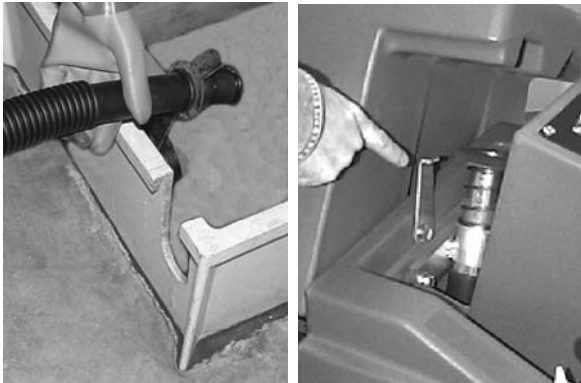

FIG. 14
1. Remove drain hose from holder, position hose over floor drain and twist off drain hose cap. To completely drain recovery tank, hinge open tank and flip up tank support stand to rest tank on (Figure 14).